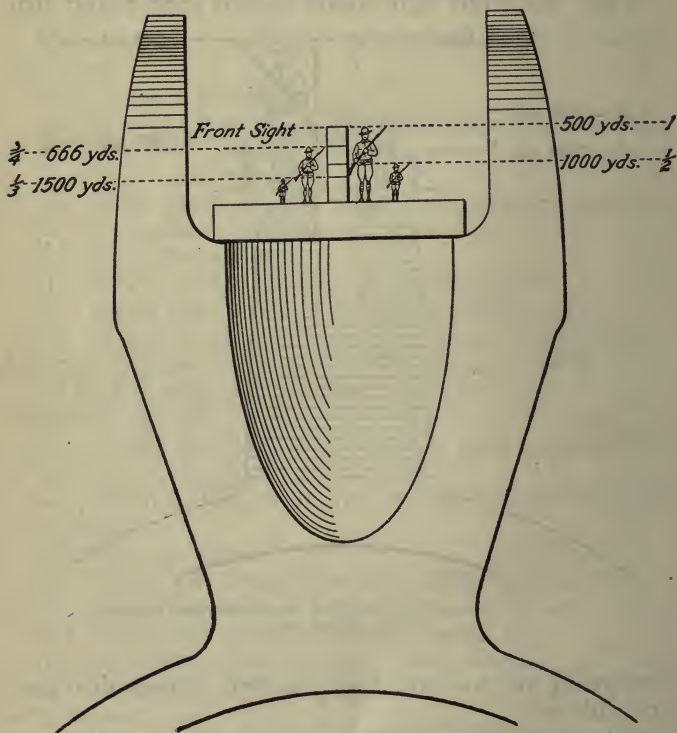

FIG. 26a.—Front Sight Method for Estimating Ranges.
**For Model 1917:** (Fig. 26a.)